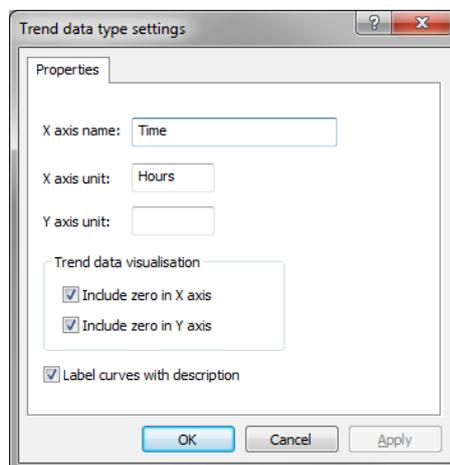

Figure 16: General settings.
9. Select **Settings** > **General settings...** (⚙️) to call the *Curve settings* dialog box (see Figure 16).